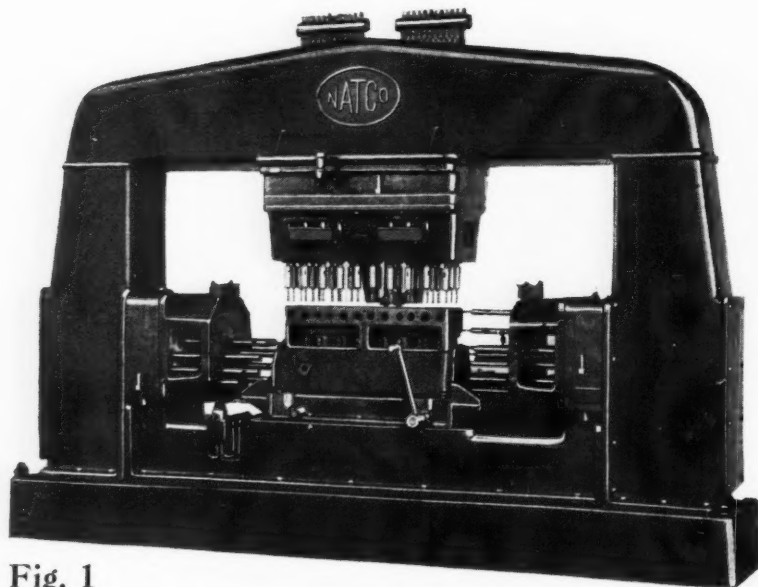

Fig. 1
**A** RECENT installation by the National Automatic Tool Co. for tapping the top and both ends of a cylinder block simultaneously (Fig. 1) has certain of the earmarks of a highly specialized machine although it is made up largely of standard units.